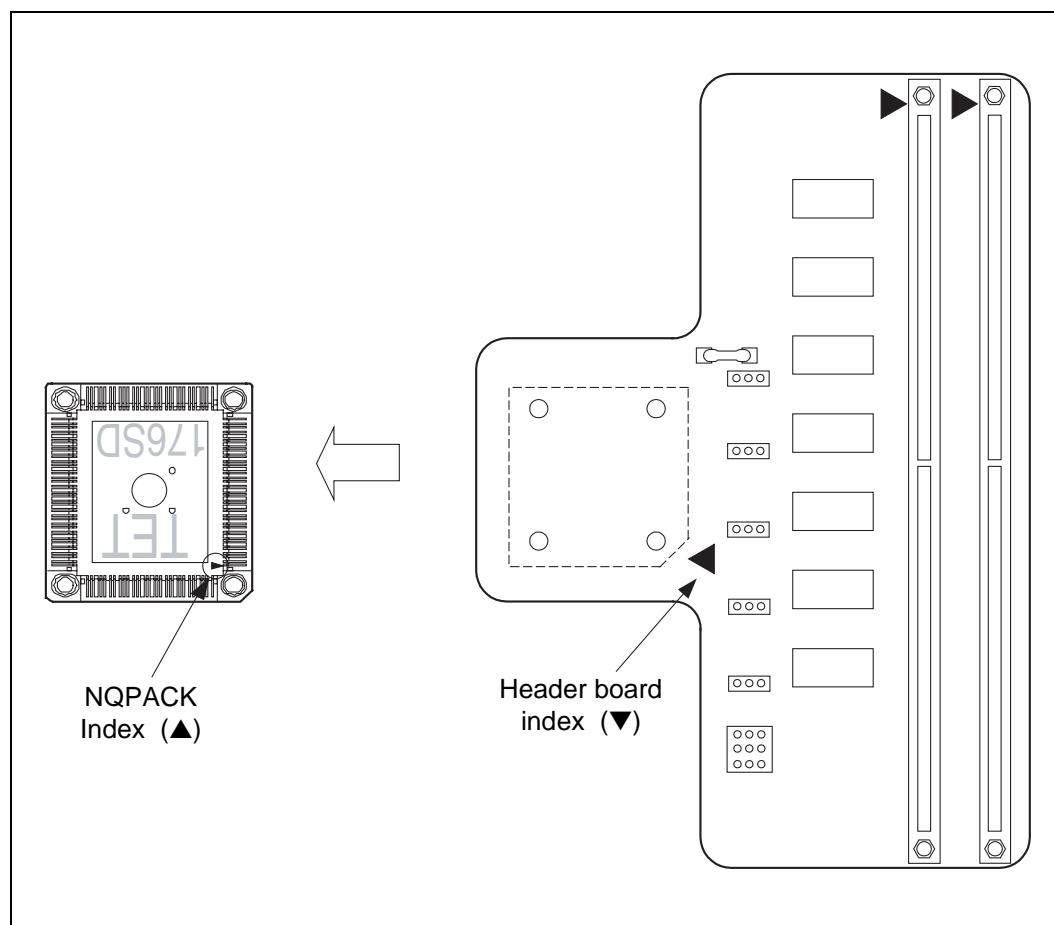

Figure 3.1 Index Positions
1. To connect the header board to the user system, align the index mark (\blacktriangle) on the header board with pin 1 on the NQPACK mounted on the user system. Pin 1 on the NQPACK is also indicated by an index mark (\blacktriangle) (See Figure 3.1) .